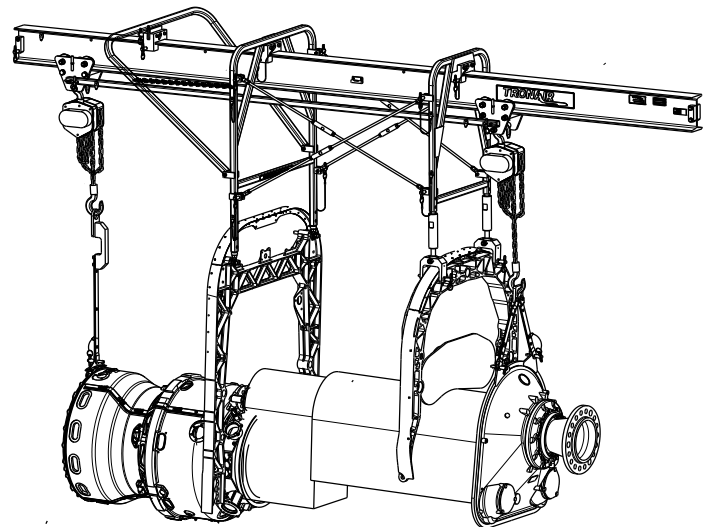

FIGURE 8
14. Install forward and aft lifting straps. **Reference Figure 8.**